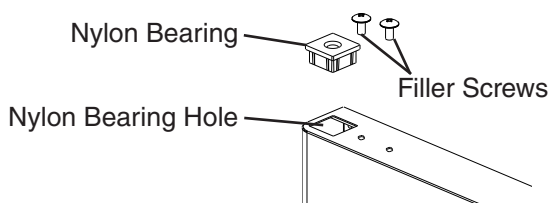
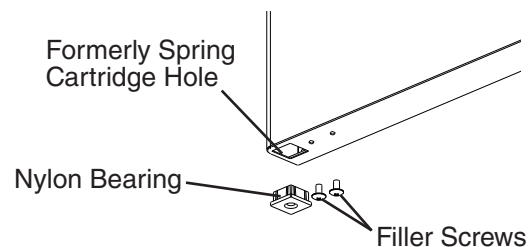

Fig. 9
Fig. 10
- 7) Rotate the door 180 degrees, to its new orientation. Remove the nylon bearing and filler screws. See Fig. 9. **NOTICE! Care should be taken not to damage the door.** Mount the nylon bearing and filler screws into the holes left by the spring cartridge in the lower section of the door. See Fig. 10.